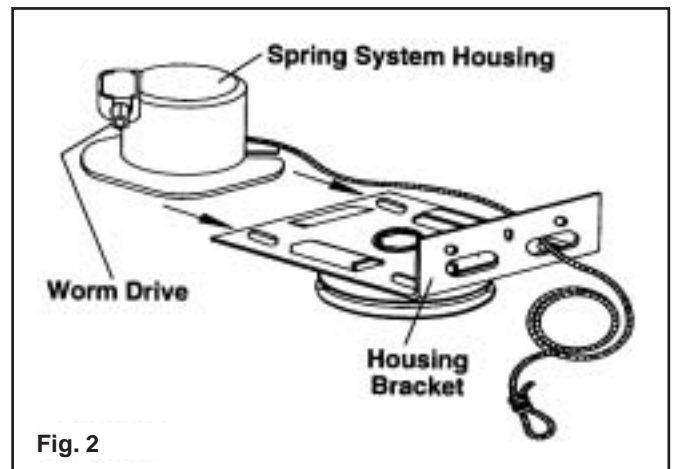

Fig. 2
Step 2: Remove the spring system housing from the package and slide it into the housing bracket. The coiled cable will extend through the upper slot in the housing bracket. The "L" and "R" marks on the housing bracket determine the left hand and right hand sides (when viewing the door from the inside of garage looking out.) For example, the right hand housing bracket will have the "R" on the top when properly installed on the right hand side with the cable running through the upper slot. (FIG. 2)